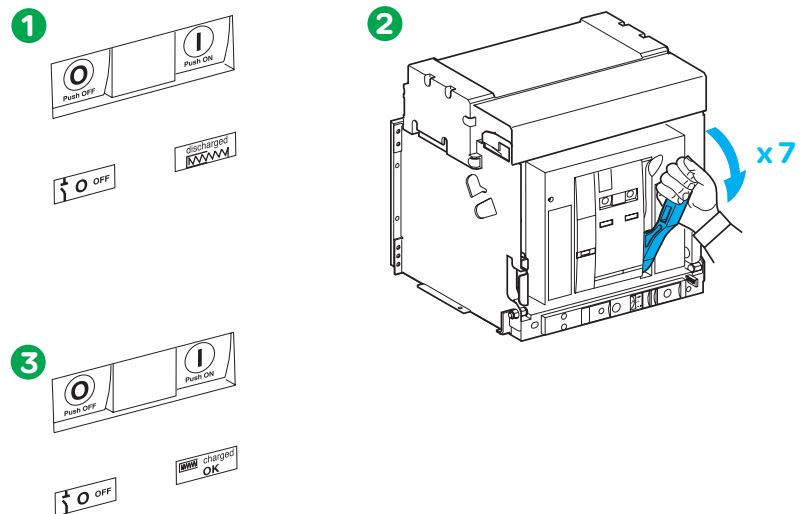

Fig. 1
■ Charge the Masterpact operating mechanism by pulling down on the lever seven times until a "Click" is heard. The "charged" indication is displayed (see Fig. 1).